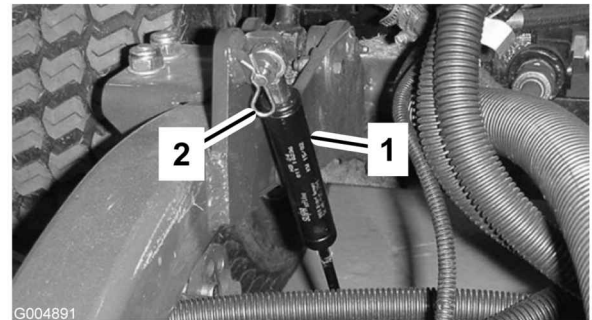

Figure 74
2. Remove the hairpin cotter securing dampers to lift arms (Figure 74). Pivot damper toward deck housing.